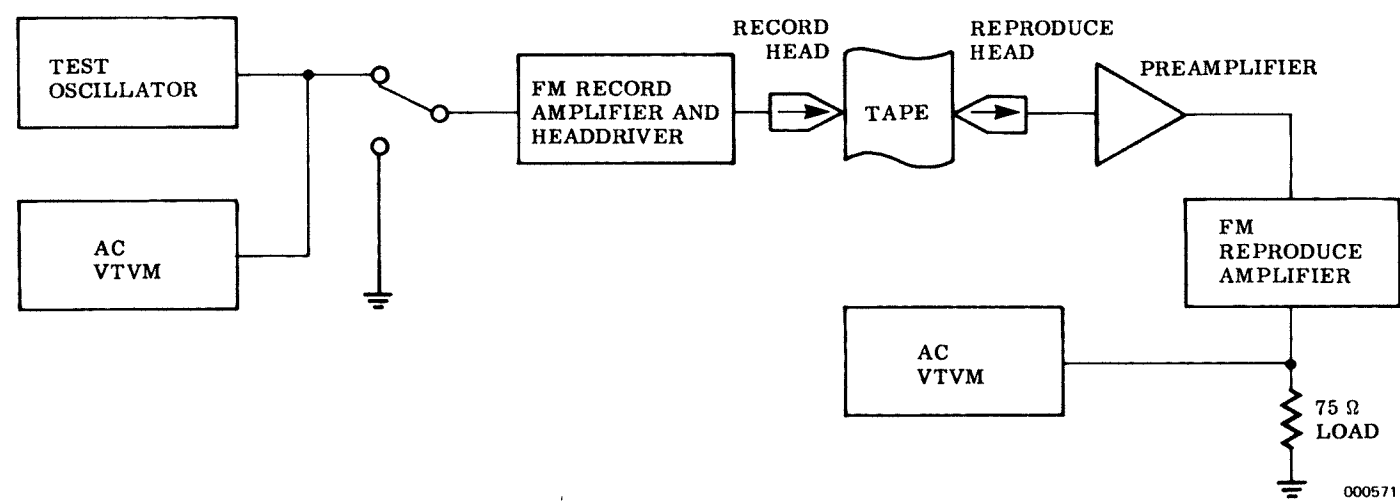

Figure 7B-1. Test Equipment Setup for FM Frequency and Signal-to-Noise Tests
- a. Connect test equipment as shown in Figure 7B-1.
- b. Connect the test equipment as shown in Figure 7B-1 on page 7B-1.